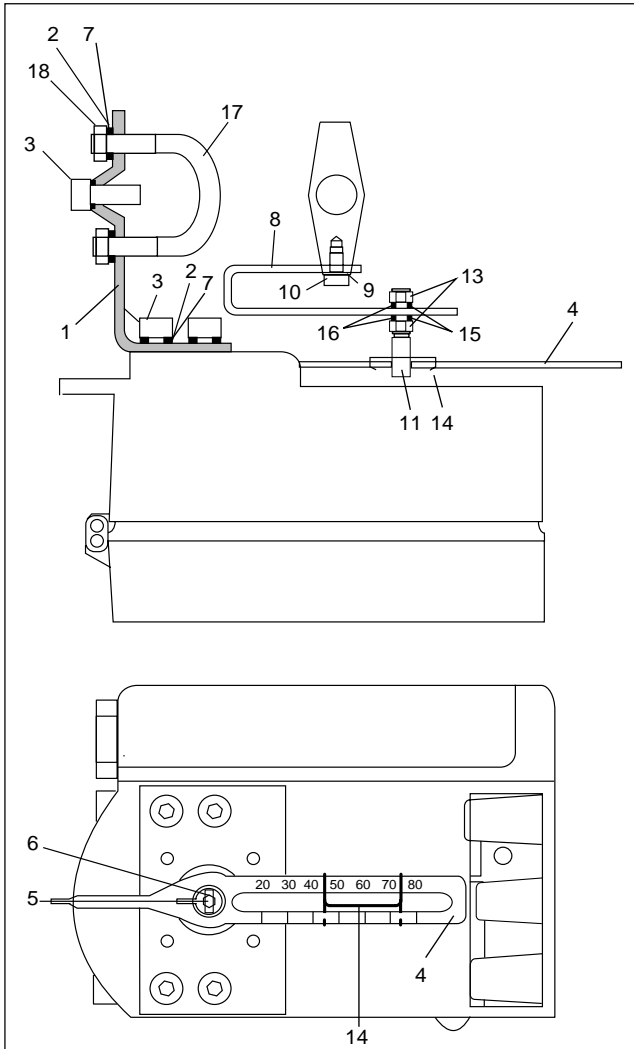

Fig. 3 Mounting kit for linear actuators
A mounting kit is available for mounting the positioner to a linear actuator in accordance with DIN/IEC 534. Fig. 3 shows the individual parts of the mounting kit. The lever (item 4) is already mounted to the positioner when the device is delivered. All other items are delivered in a separate package.